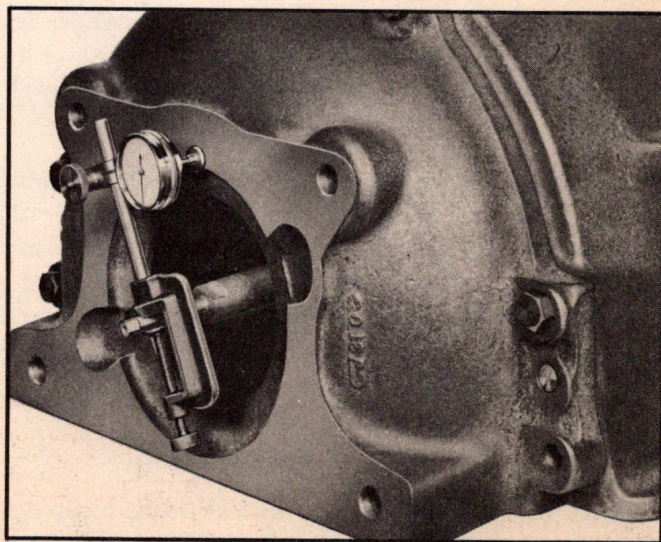

Fig. 225—Dial Indicator in Place to Check Face
7. Change indicator location so stem contacts rear face of flywheel housing $\frac{3}{8}$ " from the edge of the hole (Fig. 225).
4. Recheck face alignment. Total indicator reading on a $5\frac{3}{4}$ " diameter should not exceed .003" (Fig. 225). Relocate shims if necessary to bring reading within limits.